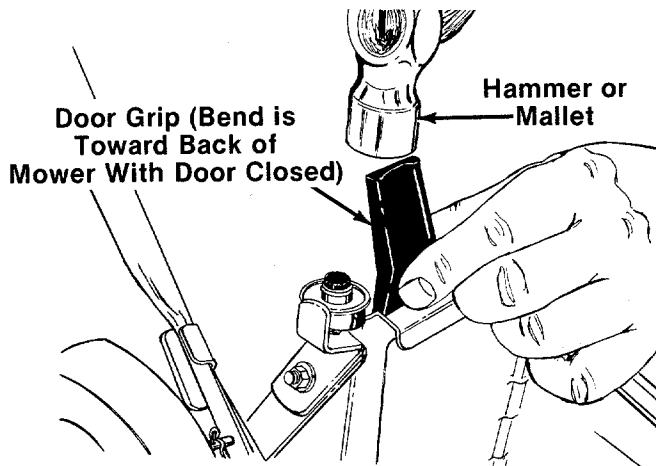

FIGURE 16.
7. Attach the door grip to the tab on the top of the door in the catcher panel so that the bend in the grip is toward the back of the mower. See figure 16. Tap on gently with a hammer or mallet.